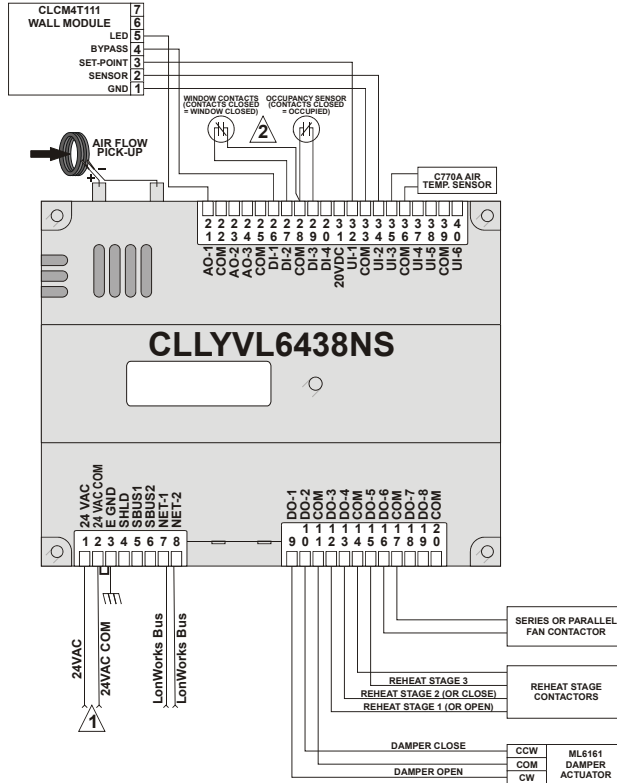
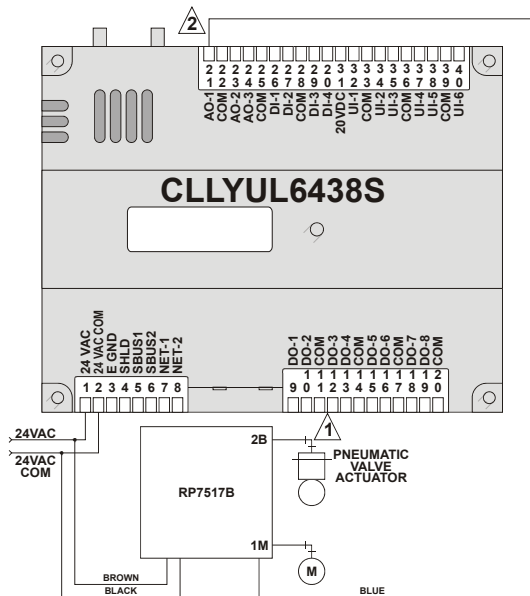

Fig. 15. Controller wiring diagram (CLLYVL6438NS shown) for typical VAV application
Fig. 21. Controller wiring diagram (CLLYUL6438S shown) for RP7517B pneumatic transducer
Fig. 15 through Fig. 21 illustrate controller wiring for the following configurations.
- Typical controller wiring for VAV application using the CLCM4T111 Wall Module and an LF20 Air Temperature Sensor (see Fig. 15).
- Typical controller wiring for a pneumatic transducer, model RP7517B (see Fig. 21).